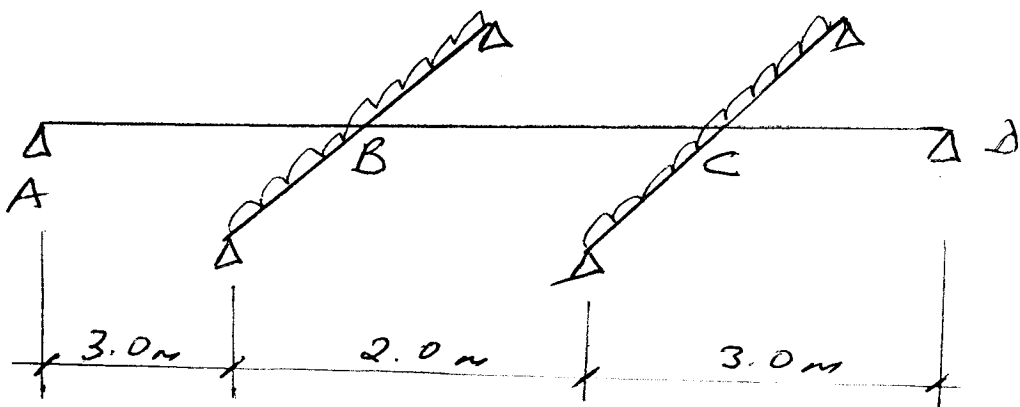

FIG 3.0
- 4.0. The simply supported beam as shown in fig. 3.0 is loaded at B & C by secondary beams which transmit loads of 45 kN and 50kN respectively on it at these points.